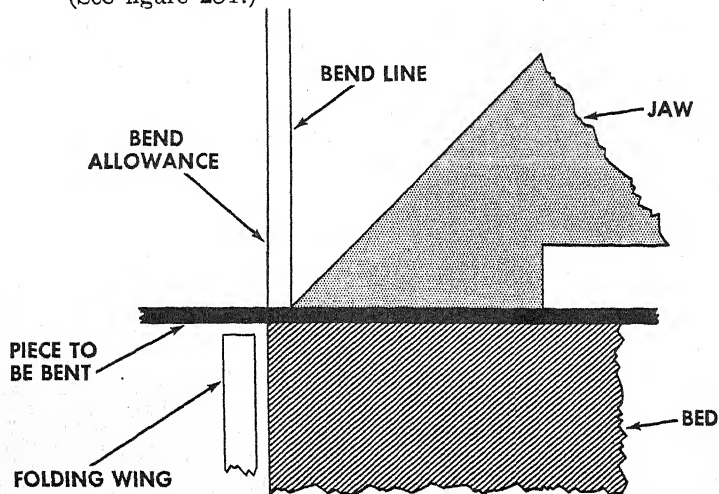

Figure 284. — End view of brake showing bend allowance setting.
3. Set the bend allowance on the upper leaf for the metal you are working. This distance is measured from the front edge of the bottom leaf to the front edge of the upper leaf. (See figure 284.)